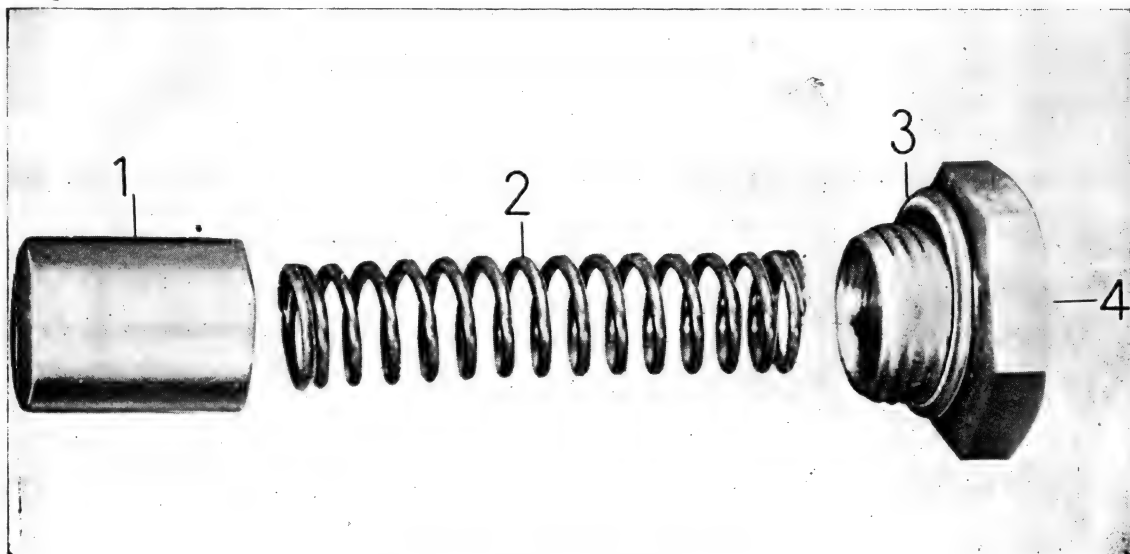

Figure 5 — Oil Pressure Relief Valve
**OIL PRESSURE RELIEF VALVE (Fig. 5)**